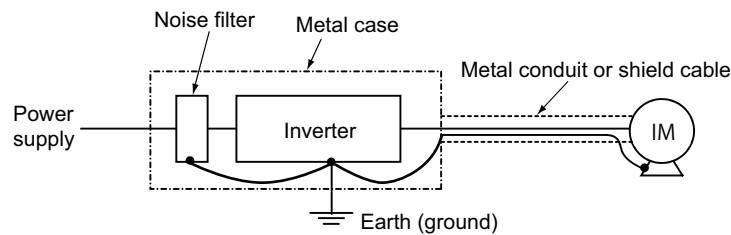

Fig. 7.24 Reducing the noise radiated from the inverter
- Usually, the noise radiated from an inverter is relatively small and does not matter. However, when an inverter needs to be installed near a device susceptible to the noise described above, store the inverter in a metal case as shown in Fig. 7.24, install a noise filter at the power supply side, and connect a metallic pipe to the case at the output side.